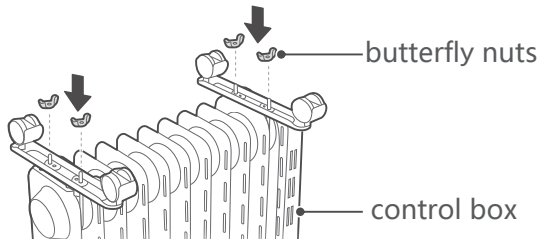

figure 2
- 3, As shown in figure 2, two sets of caster components are tightened with four butterfly nuts. Install solid and then put the heater in place-just put the wheels on the ground.